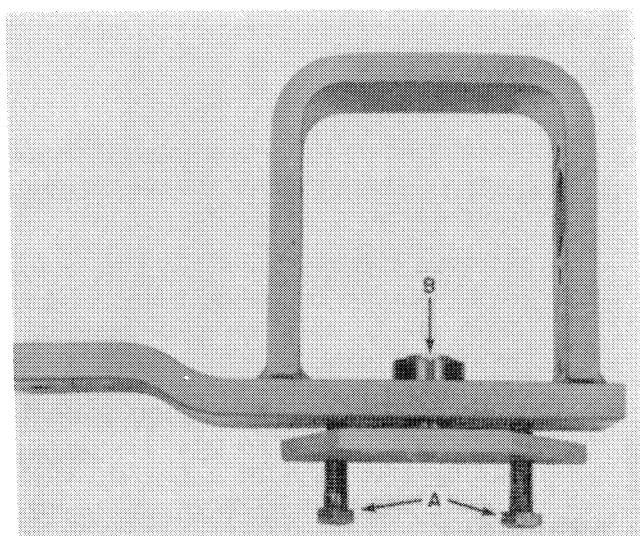
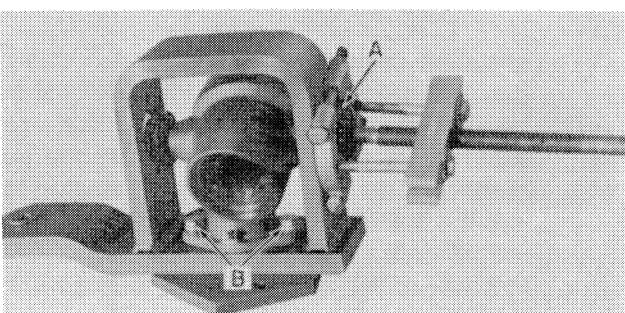
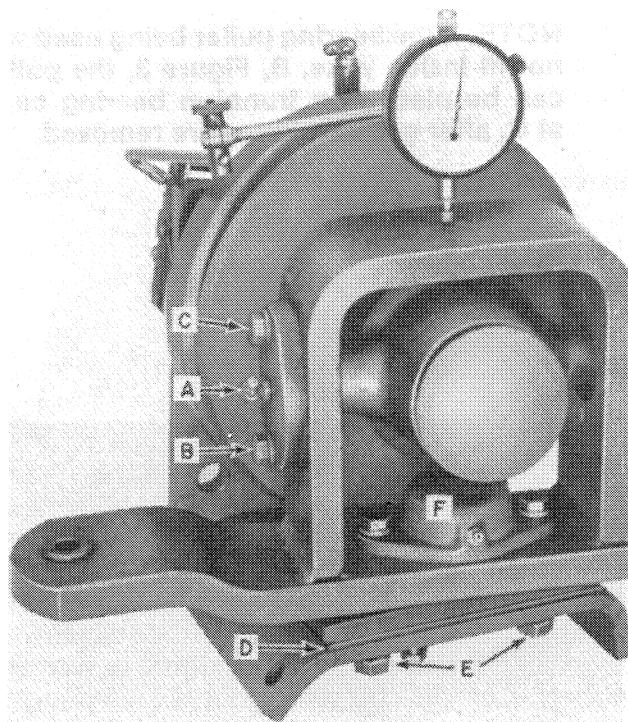

FIGURE 4
FIGURE 5
FIGURE 7
2. To disassemble the yoke assembly, remove the trunnion bearing caps and shims. Use a bearing puller, A, Figure 4, to remove the trunnion bearing and seal assemblies. Do not try to save these assemblies because the seal is usually damaged when removed.
3. Remove bolts, B, Figure 4, from the steady rest bearing cap and gasket. Install two $1\frac{1}{2}$ " cap screws at A, Figure 5, and turn the bolts in against the yoke to remove the steady rest bearing and locking collar, B, Figure 5, as one assembly.
2. Install the steady rest support, Figure 5. If the steady rest bearing was replaced, do not install locking collar, B, at this time.
3. Install the wobble hub, Figure 4, in the wobble yoke.
Install the trunnion bearing and seal assemblies. Install an equal amount of shims under both bearing caps. Make sure the bearing caps have the grease fittings pointed out as shown at A, Figure 7.
Tighten bolts, B and C, Figure 7, evenly on both sides. Make sure the caps do not set up a binding load on the radius of the yoke. Add or subtract shims under the bearing cups until it takes 6-10 in. lbs. (0.68-1.13 N·m) force to rotate the hub. The hub should not have any binding or end play. Shim sizes are 0.003", 0.005", 0.007", and 0.020".
5. Install spacer, D, and two bolts, E, Figure 7, and tighten the bolts. If the steady rest bearing was replaced, locking collar, B, Figure 5, can now be installed and tightened. This procedure will insure that the bearing is not moved out of its original position. Install the gasket and bearing cap, F, Figure 7.
6. Loosen bolts, E, Figure 7, two full turns. The wobble yoke assembly should not have any more than 0.006" (0.15 mm) vertical movement while turning the wobble sheave through one full revolution. Use a dial indicator, shown in Figure 7, to check movement. If there is more than 0.006" (0.15 mm) movement, recheck bearings for proper seating and preload.
IMPORTANT: Excessive movement will cause repeated steady rest bearing and knife head bushing failures. Bolts, E, Figure 7, can now be removed.